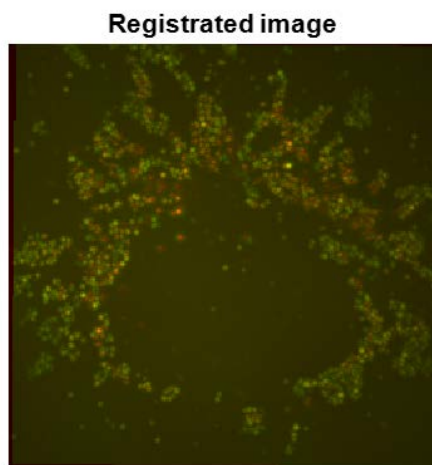

Figure 7. Overlaid projection images from two detection planes after alignment calibration.
- Step 4. Click 'Show merge' button to show the overlaid projection images from two detection planes after alignment calibration (Figure 7).